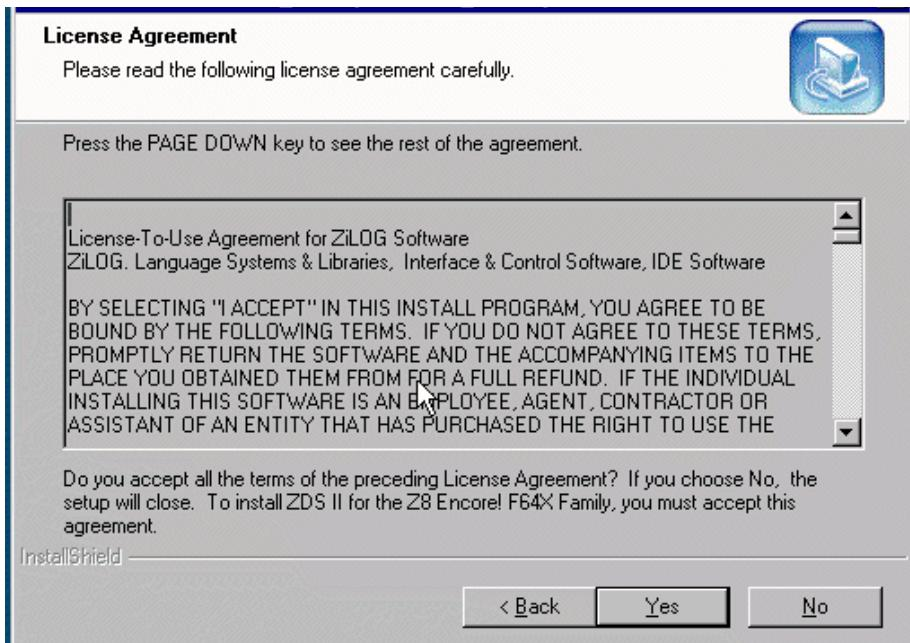

Figure 6. License Agreement (Reference Only)
2. Click **Next >** to continue with the installation. The License Agreement appears (Figure 6).